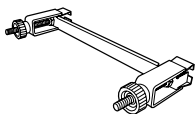

Fig. 3
- Stayplate clamps (fig. 3) for horizontal installations. To be used with RM stayplates, minimum width 120 mm.